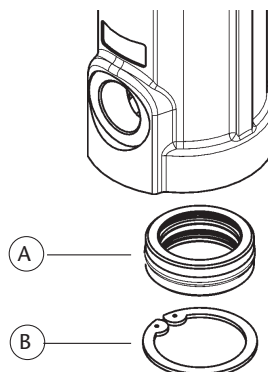

Fig. 11
LOWER VALVE (FIG. 11, FIG. 12)
2. Remove the circlip (B) and the packing set (A) (fig. 11) from the air motor body. Replace in case of damage.